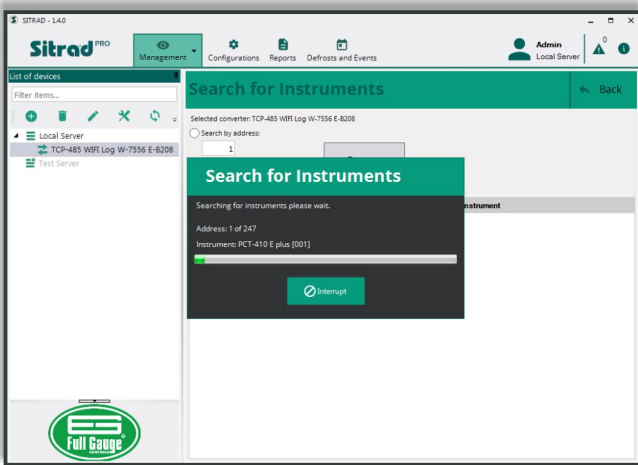

Figure 30
Step 6: The **Instrument Search** tab allows you to register instruments by address. There are two options: Search in address range, in which various instruments with addresses within the selected range are searched. After choosing the option, just click on **Search** and Sitrad^{pro} automatically registers the instruments (Figure 30). If you choose to search the full range of addresses, the process may take a few minutes. The registered instruments will now appear on the **Device List** tab, linked to the converter.